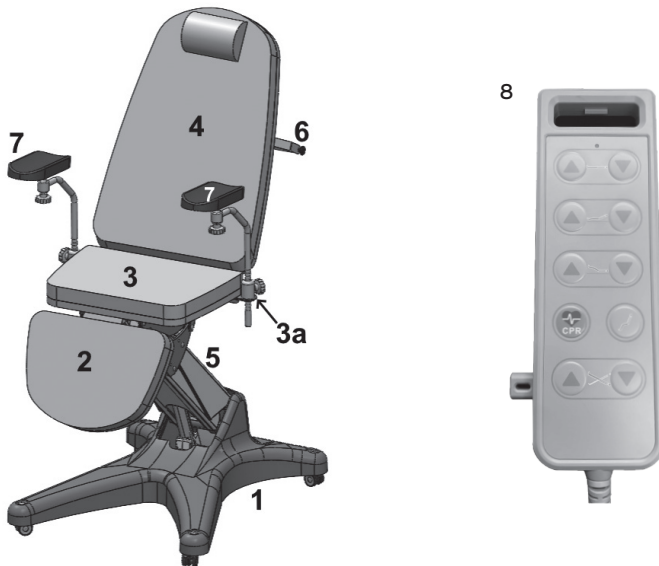

Fig.3
- For the PM140 model: insert the armrests (ref.7 in fig.3) in the appropriate support bush (ref.3a), adjusting the height using already-installed handwheel. (ref.3a) and adjust the height using the provided handwheel.